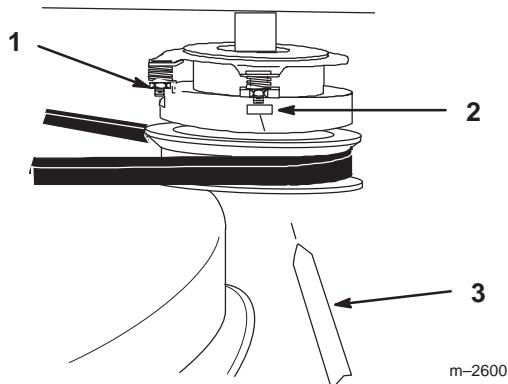

Figure 60
1. To adjust clutch, tighten or loosen lock nuts on flange studs (Fig. 60).
2. Check adjustment by inserting feeler gauge through slots next to studs (Fig. 60).